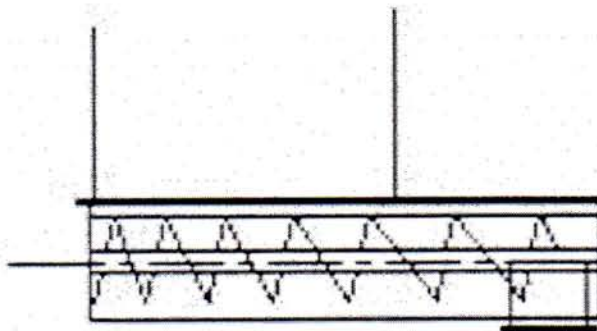

Figure 2. Increasing Pitch, Mass-Flow, Screw Feeder
Fig. 2 shows an increasing pitch mass flow screw feeder. Notice that the flights increase from  $\frac{1}{2}$  pitch to full pitch over the length of the screw. This approach will as well, provide increased flight capacity; however, the length of outlet over which you can use this is also limited to three (3) times the screw diameter.